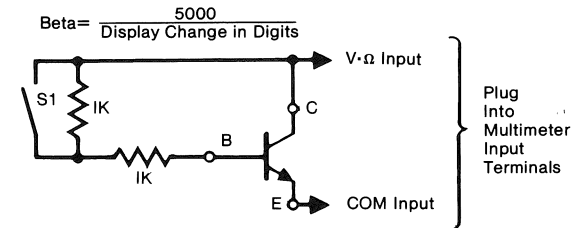

Figure 6. Test Fixture for Beta Measurements
The transistor Beta test setup is shown in Figure 6 for an NPN transistor. For PNP transistors, the connections to the Multimeter should be reversed.
1. With all the connections made as shown in Figure 6 and with switch S1 open, record the displayed reading (ignore decimal point).
2. Connect red test lead to V- Ω connector and the black test lead to the COM connector. With the test leads separated, the Digital Display will indicate OL (overload), Figure 6.